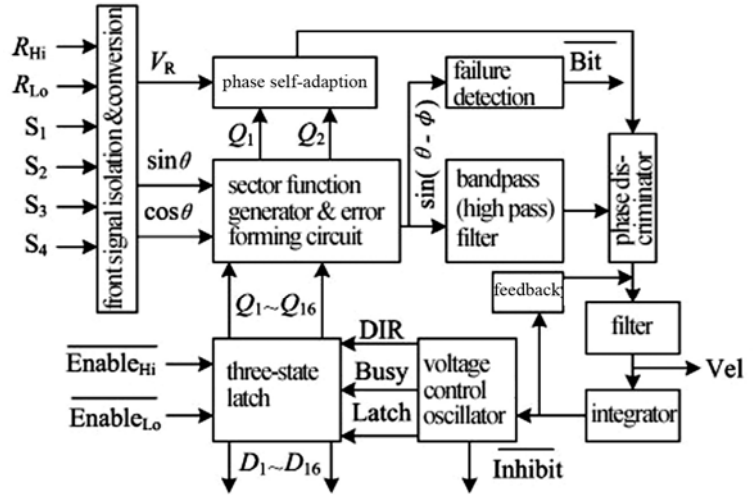

Fig. 3 Block diagram of operating principle
6. Operating principle (Fig. 3)